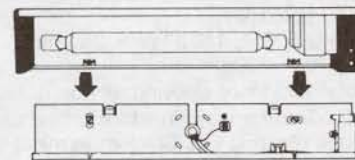

Fig. 8
10. Refit diffuser by reversing procedure in section 2. (Fig 8).